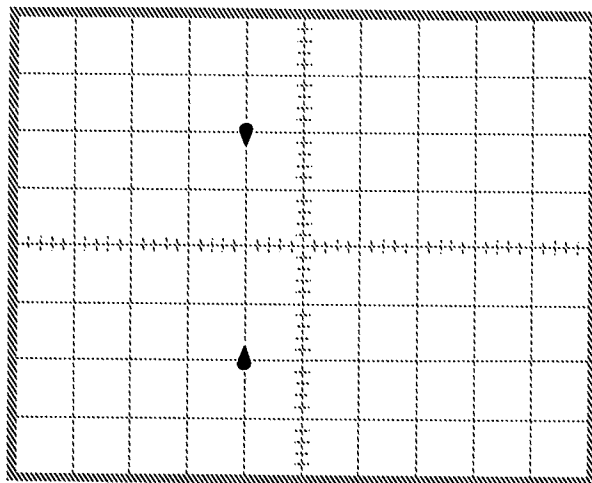
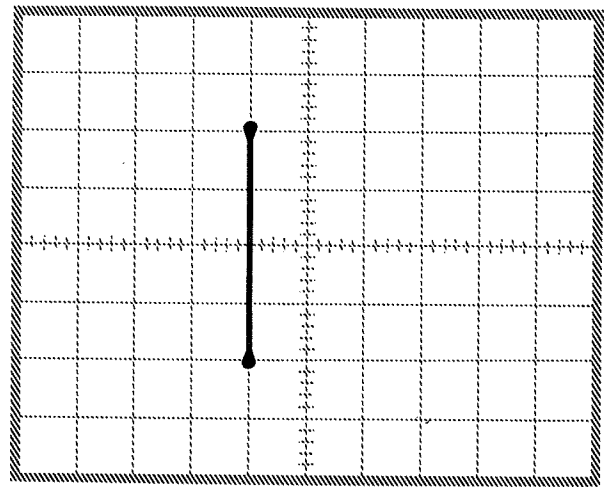

Figure 20A
Figure 20B
2. Use the Y1, Y2, and HORIZ POSITION controls and position the dots as shown in Figure 20A or 20B.
3. If the dots look like those in Figure 20A, proceed to "Attenuator Compensation."
If the dots look like these in Figure 20B (connected together), turn CHOP BLANK ADJ control R428 counterclockwise until the dots look like those in Figure 20A. Then proceed to "Attenuator Compensation."